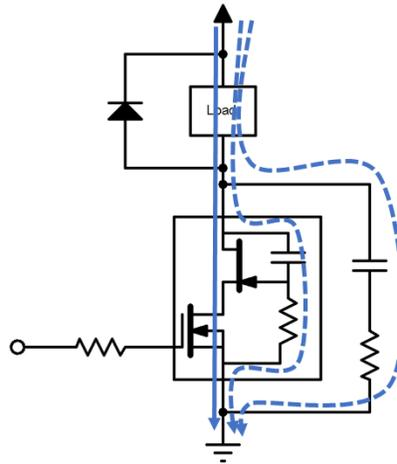
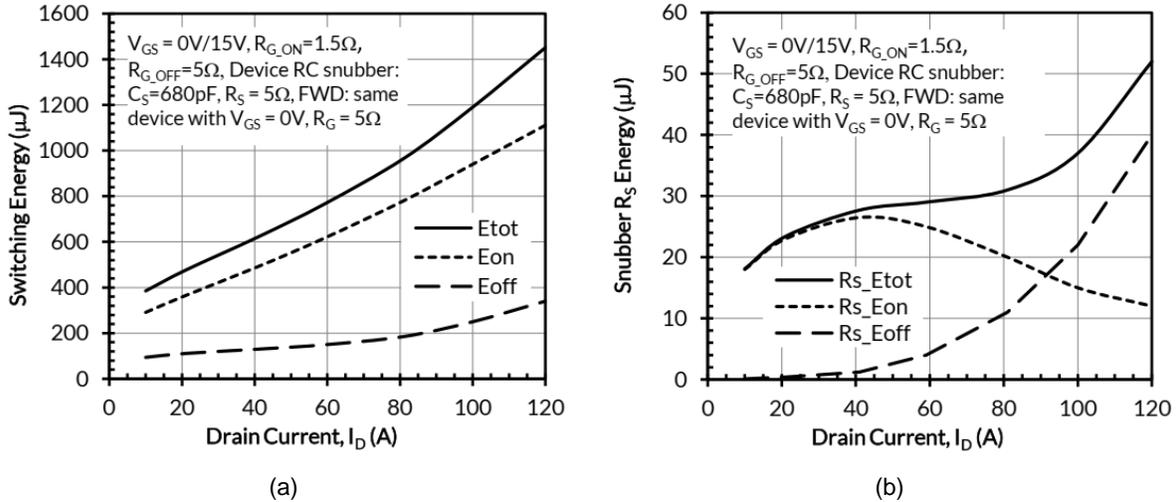
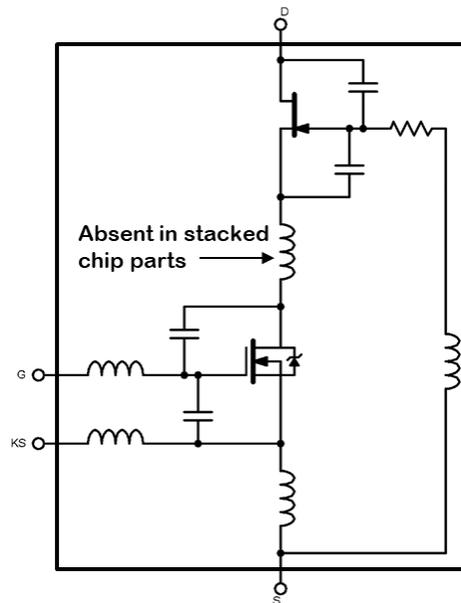

Figure 6 Cascode turn-off with snubber
Figure 8 (a) Switching energy versus current, and (b) snubber resistor energy versus current for UJ4SC075005L8S
Figure 10 Cascode including stray inductances and relevant capacitances
Most cascodes have lower turn-off versus turn-on switching energy,  $E_{off}$  versus  $E_{on}$ . This is evident in the switching energy versus current graph in datasheets, see Figure 8(a). The cascode inherent switching speed is mostly determined by the JFET capacitances and JFET on-chip gate resistance, which is set by design for competitive total switching loss  $E_{total} = E_{off} + E_{on}$ . Much of the effort in applying the cascode is to slow the turn-off switching to limit voltage overshoot and ringing. Here an understanding of the cascode capacitances is valuable. Figure 6 shows a cascode switching off with an inductive load, with the cascode output capacitance (equal to the JFET gate-drain capacitance) and on-chip JFET gate resistance depicted in the cascode along with the SiC JFET and Si MOSFET.
The solid arrow in Figure 6 depicts the current flowing through the inductive load and the cascode while the cascode is on. As the cascode switches off, it becomes resistive, and current diverts to the output capacitance and JFET gate resistance as the cascode drain-source voltage increases. Only load current charges the cascode output capacitance because of the lack of gate-drain capacitance; no current is forced through the cascode gate. This results in low gate charge and immunity from  $dV/dt$  induced (parasitic) turn-on, which are attractive features of the cascode. It creates however a challenge for speed control because gate current is not involved in charging the cascode output capacitance, and therefore adjusting the cascode gate resistance has no direct effect on the cascode switching voltage slew rate  $dV/dt$ . The gate resistance adjusts the switching speed of the cascode's MOSFET, so the switching current slew rate  $di/dt$  can be adjusted. (This is somewhat a simplified explanation because with high enough cascode gate resistance, the  $dV/dt$  can be regulated, but then the switching delay time would be excessive.) Because of the faster turn-off versus turn-on speed of the cascode, see Figure 8(a), a turn-off snubber is recommended for hard-switching, usually in the form of a resistor-capacitor (RC) snubber connected across drain and source. The cascode's fixed output capacitance is augmented with additional output capacitance plus damping resistance, both of which are adjustable based on the application requirements. Figure 6 depicts additional current diverted away from the cascode during turn-off, thus reducing  $dV/dt$  and  $di/dt$  of the cascode. In this way, the snubber compensates for the limited switching speed control provided by the cascode gate resistance.
Figure 8(a) shows the hard-switching loss versus current for the UJ4SC075005L8S cascode. Here you can see the significantly higher turn-on versus turn-off switching energy, which is typical of many cascode parts. Figure 8(b) shows the corresponding snubber resistor energy for this same part. Total snubber loss is 3 to 5% of the total hard-switching loss. Remember however that without the snubber, there is often excessive turn-off voltage overshoot and ringing. With the snubber, all waveforms are damped both at turn-on and turn-off: cascode  $V_{DS}$ ,  $V_{GS}$ , and  $I_D$ . The snubber has proven to be the most efficient way to regulate the cascode switching. The total switching loss is lower with a snubber and less gate resistance versus no snubber and more gate resistance. This is true of both SiC JFET cascodes and many SiC MOSFETs.
Let us consider again the cascode in Figure 6 switching off with an inductive load, redrawn in Figure 10 but including stray inductances. As the cascode's MOSFET turns off, its resistance increases and so does the MOSFET drain-source voltage. In fact, unless the cascode's gate resistance is unusually large, the cascode's MOSFET avalanches during turn-off, clamping the JFET gate-source voltage at -25 V. This is completely safe for the JFET because its gate-source avalanche voltage is well below -25 V. It is also safe for the MOSFET because it was designed to withstand repetitive avalanche at high currents, and the duration of the avalanche is short, so the energy is low. The load current diverts from the JFET and MOSFET channel and charges the output capacitance (and snubber capacitance) until the other device in the circuit freewheels the current.